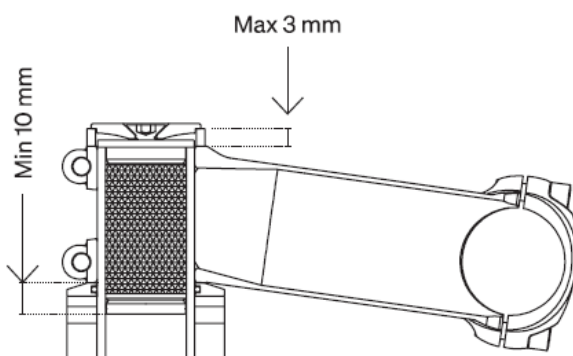

Fig. 5.2.2
3. It is allowed to use a 5 mm spacer above the stem, in this case make sure that the expander comply the point 1 (Fig. 5.2.2).